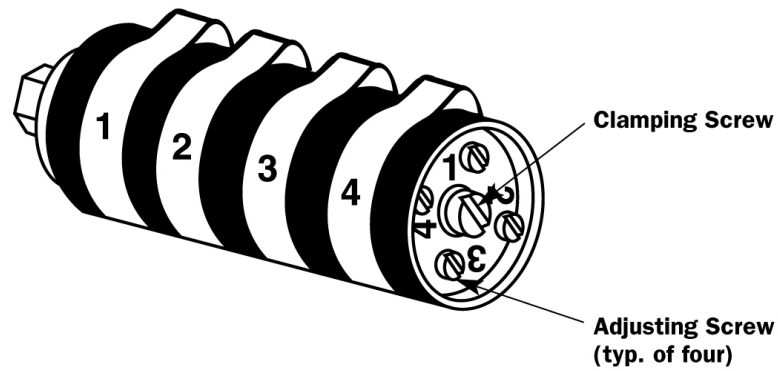

Figure 8 – Rotary Limit Switch Cam Stack
- 6.4 Loosen the central cam stack clamping screw 1/2 turn (Figure 8).